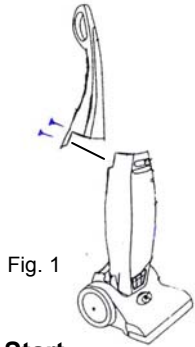

Fig. 1
3. Remove the screws (2) that are already attached to the body. (Fig. 1)
5. Once handle is in place, attach the handle with the screws (2).